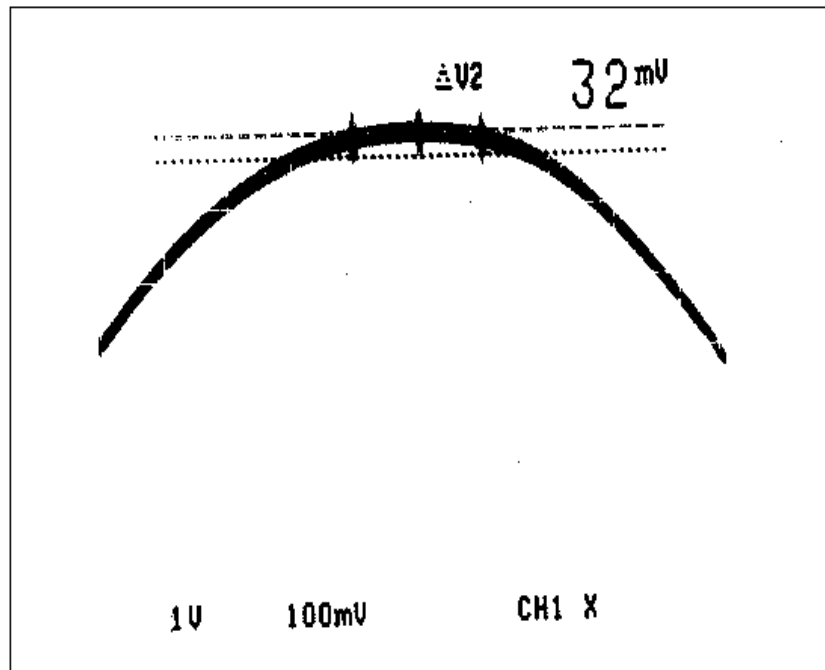

Figure B-005. Narrowband Swept Video Response @ -60 dBm - 1090 Mhz
2. Change S14 B/W-NARROW on the Test Fixture to +5V. The trace should be as shown in Figure B-005.